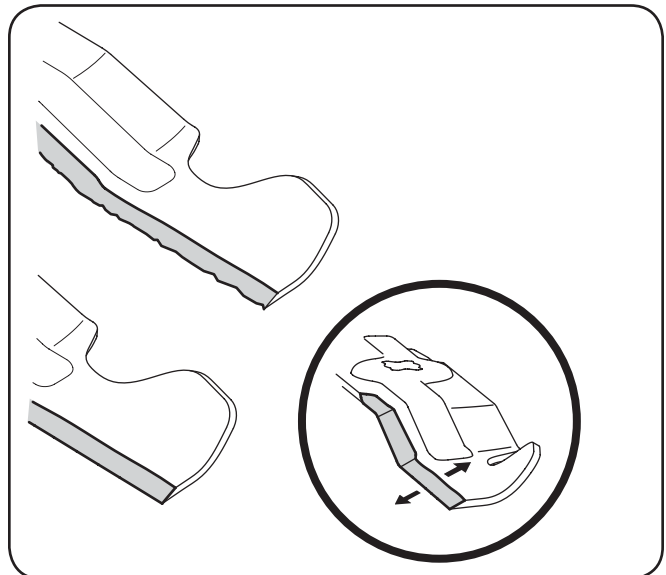

Figure 7-6
4. To properly sharpen the cutting blades, remove equal amounts of metal from both ends of the blades along the cutting edges, parallel to the trailing edge, at a 25° to 30° angle. Always grind each cutting blade edge equally to maintain proper blade balance. See Fig. 7-6.